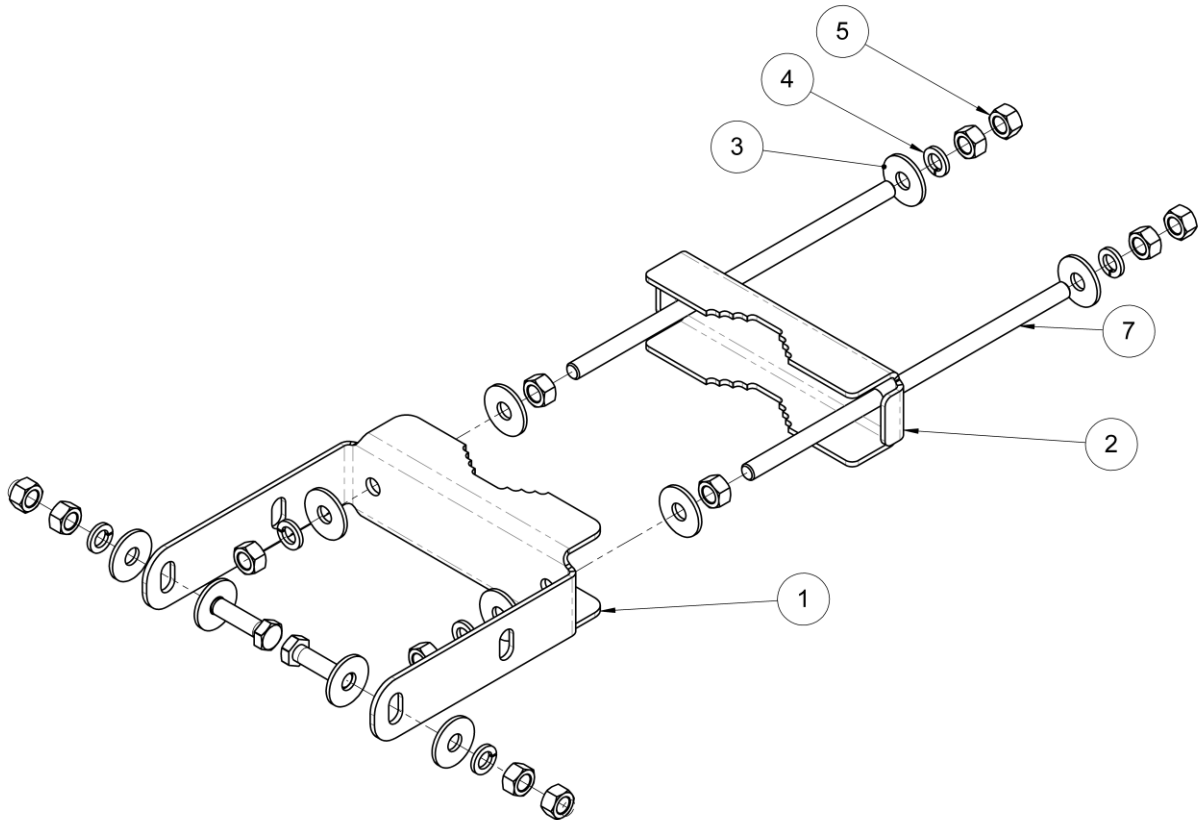

Fig. 1: Dual Position Mast Bracket Kit BOM
| 1 | To achieve 5° of downtilt, attach the dual position mast bracket, illustrated in Fig. 1, to the top hinge bracket of the antenna, as illustrated in Fig. 3 and 5. Refer to the materials list shown in Fig. 1, to properly identify the required items. |
| 3 | The bracket comes preconfigured for 5° of tilt, to configure the bracket for 0° tilt, (referring to 'Item List' in Fig. 1) remove items 3, 4, 5 and 6 from the assembly and place in the positions shown on the Dual Position mast bracket, as illustrated in Fig. 4. |